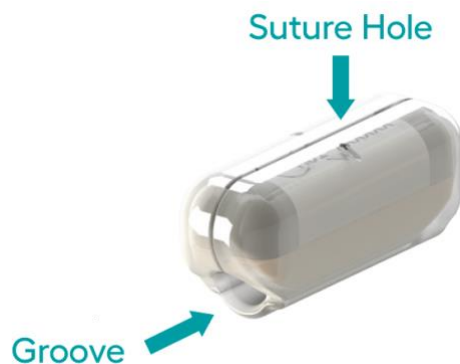

Figure 17 - Pod Suture Hole
8. While minimizing Pod movement, suture the Pod closed through the suture hole in the Pod (see **Figure 17**) with a non-absorbable 5-0 Prolene suture on a non-cutting needle. Limit the number of throws in the knot to a maximum of four to avoid excessively pulling on the device or nerve.
1. Expose the Implant in the Pod by incising any tissue capsule surrounding it along the Pod opening (see **Figure 17** on page 19) with the suture visible.
4. If performing an explantation, cut the Pod in halves by cutting parallel to the groove in the Pod (see **Figure 17** on page 19) and then remove the halves.
- If the Pod is damaged, cut the Pod in halves by cutting parallel to the groove in the Pod (see **Figure 17** on page 19) and then remove the halves. Place the new Pod and Implant by following steps 3-10 in the **Implantation** section (page 16).